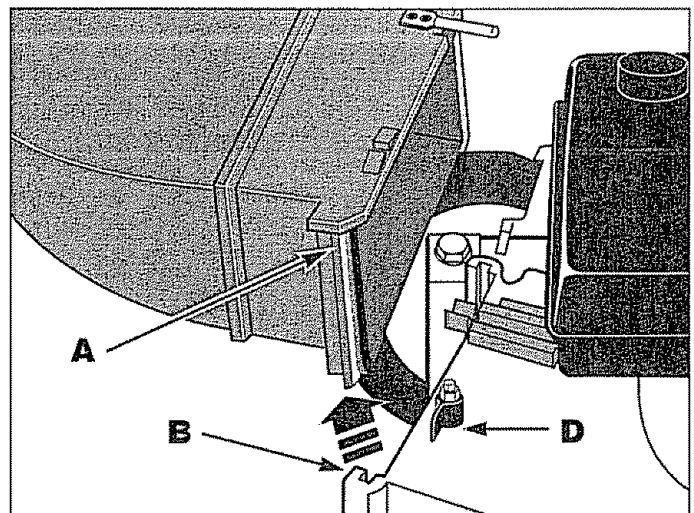

Figure 12: Remove blower deflector.
Turn retaining knob (D in Figure 12) until the tab on the knob is out of the slot in the blower deflector. Pull the sides of the blower deflector (A in Figure 12) out of the slots in the discharge opening (B) and slide the blower deflector off the machine.